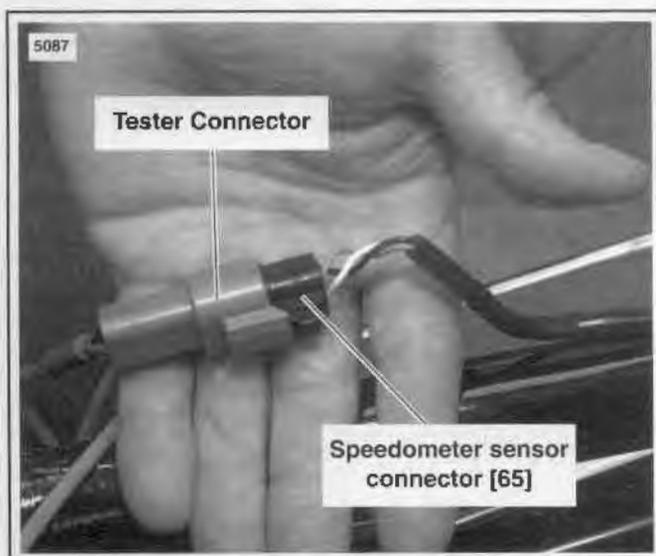

Figure 8-53. Test Connection
1. See Figure 8-53. Disconnect speedometer sensor connector [65]. Install speedometer tester connector into speedometer sensor connector as shown.